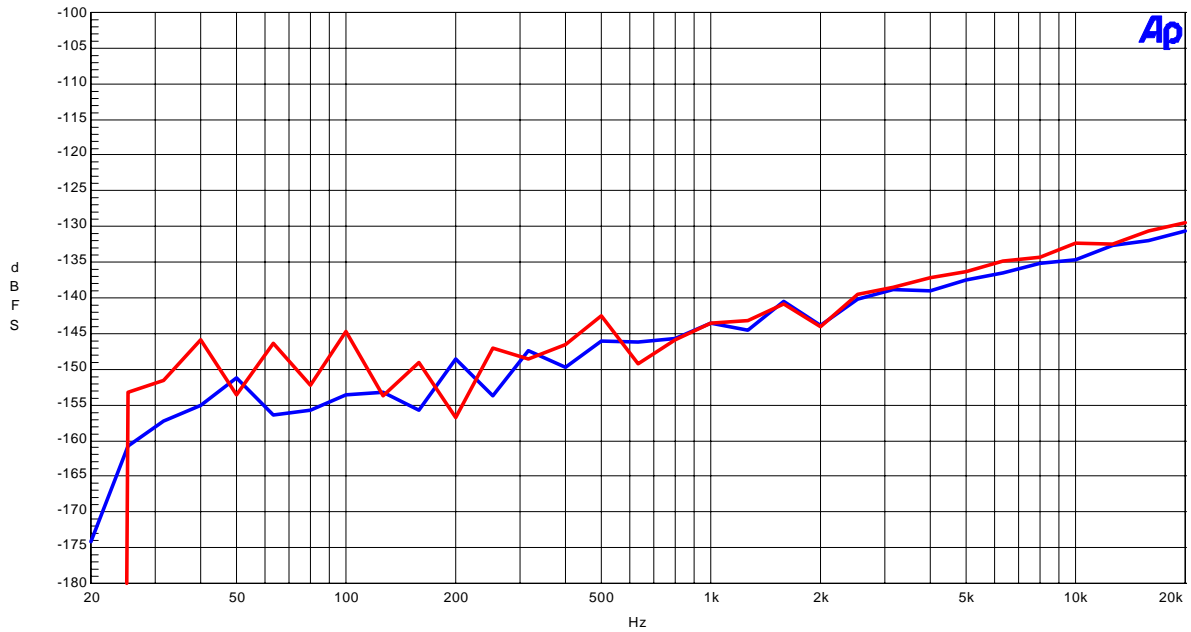

Figure 1-1-8. Cross-talk (-1dB input)
- Figure 1-1-8. Cross-talk (-1dB input)